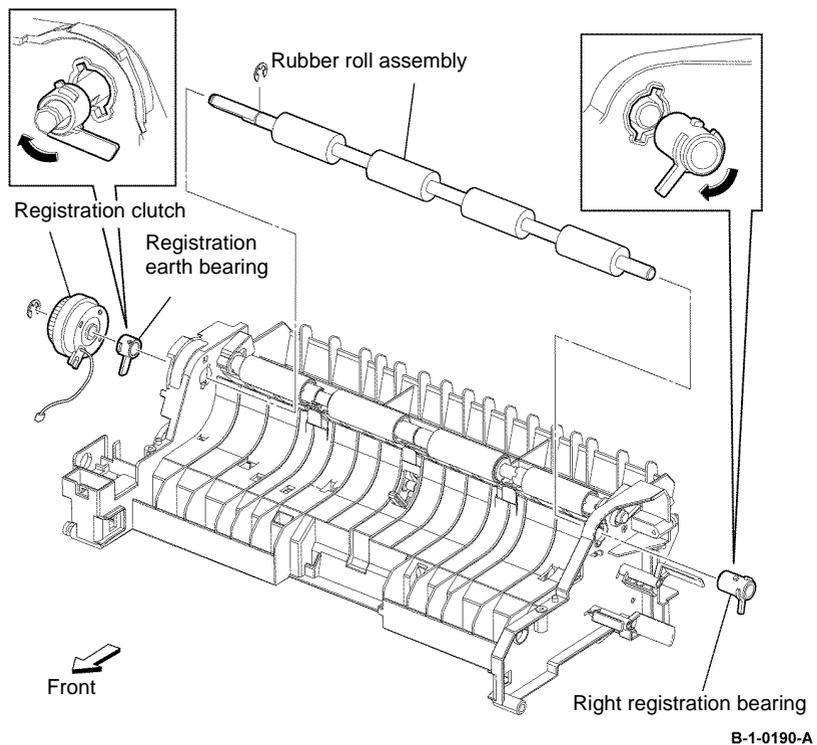

Figure 4 Registration clutch and rubber roll assembly removal
5. Remove the E-ring, then remove the registration clutch, Figure 4.
6. Remove the right registration bearing and the registration earth bearing, by rotating clockwise, Figure 4.
7. Remove the E-ring, then remove the rubber roll assembly, Figure 4.